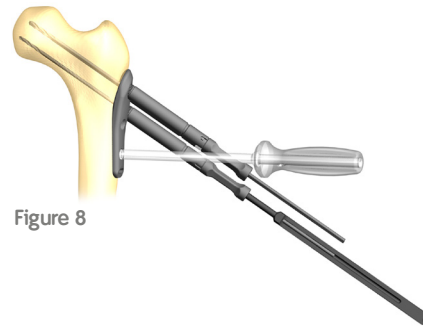

Figure 8
7. Measure for drill depth by reading the calibrations on the 2.8mm Guide Pin against the 2.8mm Guide Pin Insert or use the Proximal Screw Depth Gauge (7117-9225) (Figure 8).